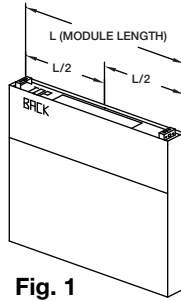

Fig. 1
2. If the back supply plenum is to have one opening, cut the opening such that it is centered at  $L/2$  from the plenum end. (Fig. 1)